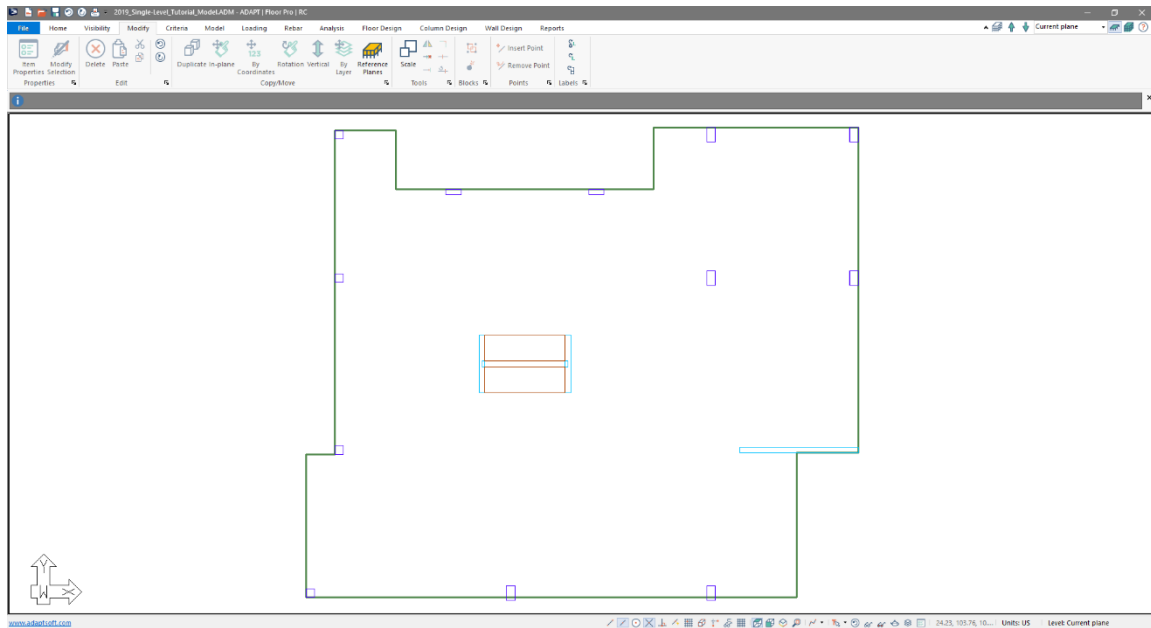

Figure 6-2
- Click on the *Top View*  icon in the **Bottom Quick Access Toolbar**. This will bring you to the view of the model shown in **FIGURE 6-2**.